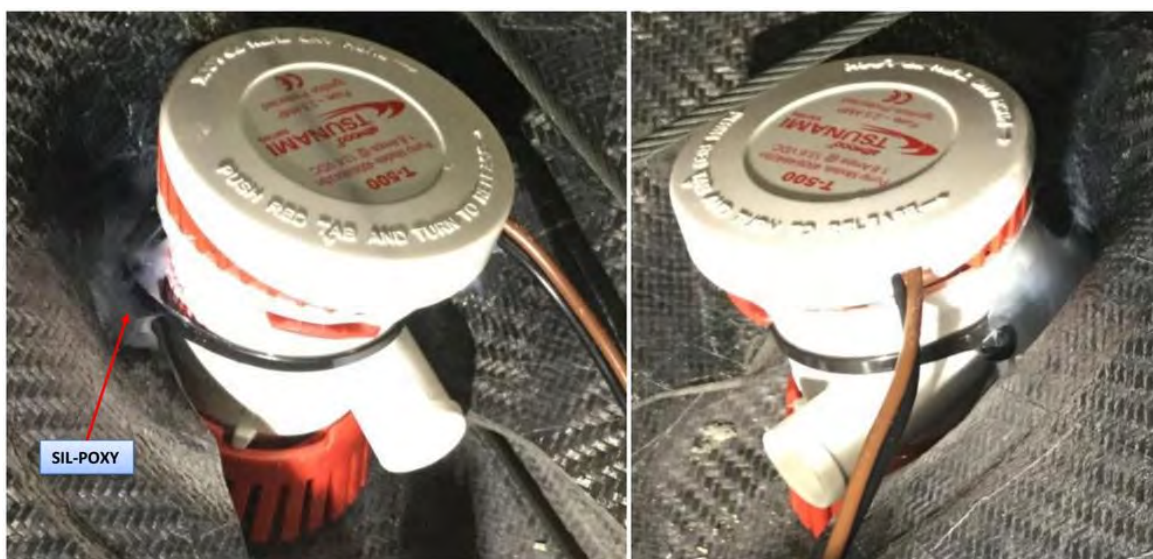

FIGURE 6-9
6. Apply Sil-Poxy adhesive around the mounting flange, completely covering the cable tie as shown. (See Figure 6-9.)